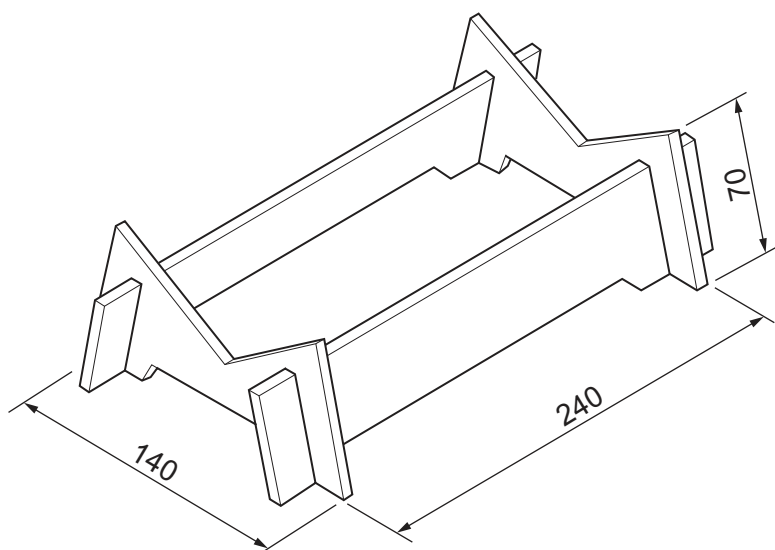

Fig. 12.3
- (f) Fig. 12.3 shows a different design of display stand made from 6 mm thick MDF. The display stand could be made in a school workshop. The sides and ends slot together.